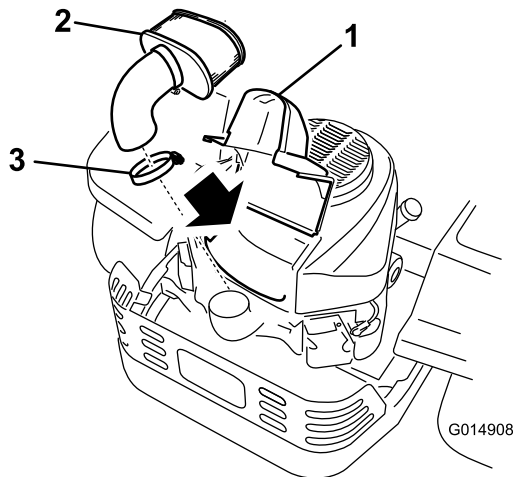

Figure 30
4. Lift the cover and remove the hose clamp securing the air-cleaner assembly to the engine (Figure 30).
5. Loosen the hose clamp and remove the paper element (Figure 30).